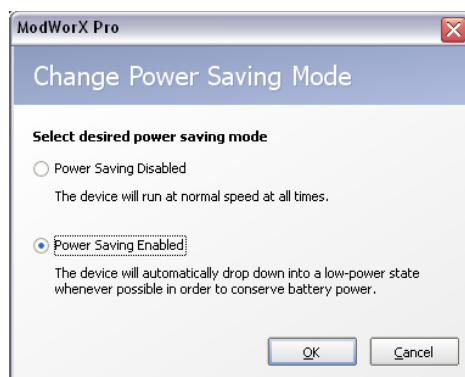

Figure A.12
2. Select **Power Saving Disabled** (Figure A.12, page A-9).